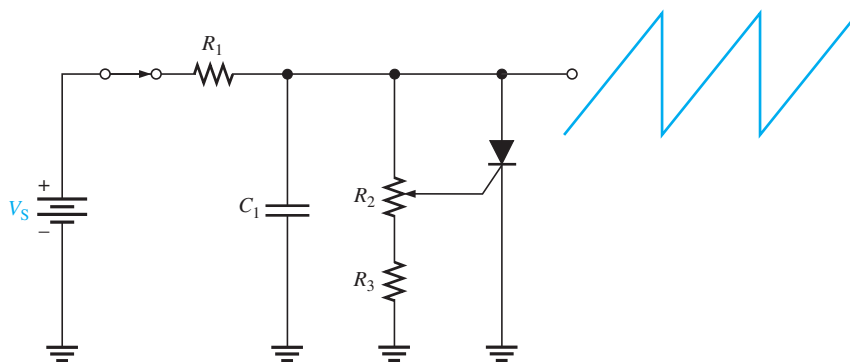

FIGURE 11–23
1. If the potentiometer in Figure 11–18 is set at its midpoint, during what part of the input cycle will the SCR conduct?